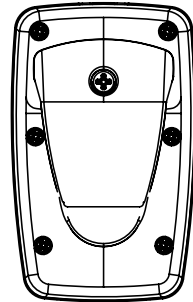

Figure 19. Battery cover and the screws holding the cover
1. Open the battery cover by unscrewing the 6 screws on the backside of the transmitter housing (see fig. 19).